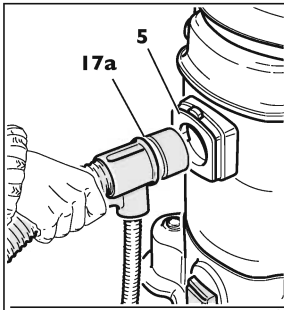

Fig. 03
- COMPLETE HOSE (17)** (fig. 03) - Insert the swivel quick-coupling (17a) of the hose (17) into the suction nozzle (5).